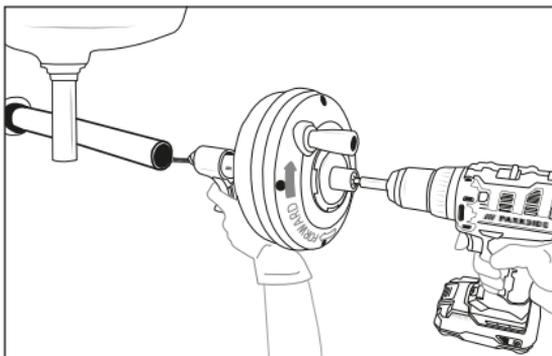

Fig. 3
- 8) Check that the appliance can be kept at a maximum distance of 10 cm from the drain opening. A greater distance from the drain opening increases the risk of the spiral **8** twisting or kinking. If the distance is greater, the drain opening must be extended with pipes and connections of the same size so that the appliance can be placed a maximum of 10 cm in front of the drain opening (see Fig. 3). If the spiral **8** is insufficiently supported, it can kink, twist and be damaged or injure the user.
- 7) Turn the drum **2** clockwise (visible by the arrow on the back of the drum **2**, see Fig. 3) and press the trigger **6**. Operating the trigger **6** guides the spiral **8** into the drain. You can also quickly advance and retract the spiral **8** by pulling it out of the drum **2** or pushing it in by hand.